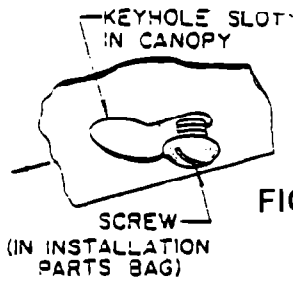

FIG. 3
6. Remove the hood and start all four screws in the center of the narrow neck of the keyhole slot marked on the cabinet bottom (See Figure 3).
9. Tighten the four mounting screws to secure the hood to the cabinet. Be sure the screw heads are in the narrow neck of the keyhole slot (Figure 3).